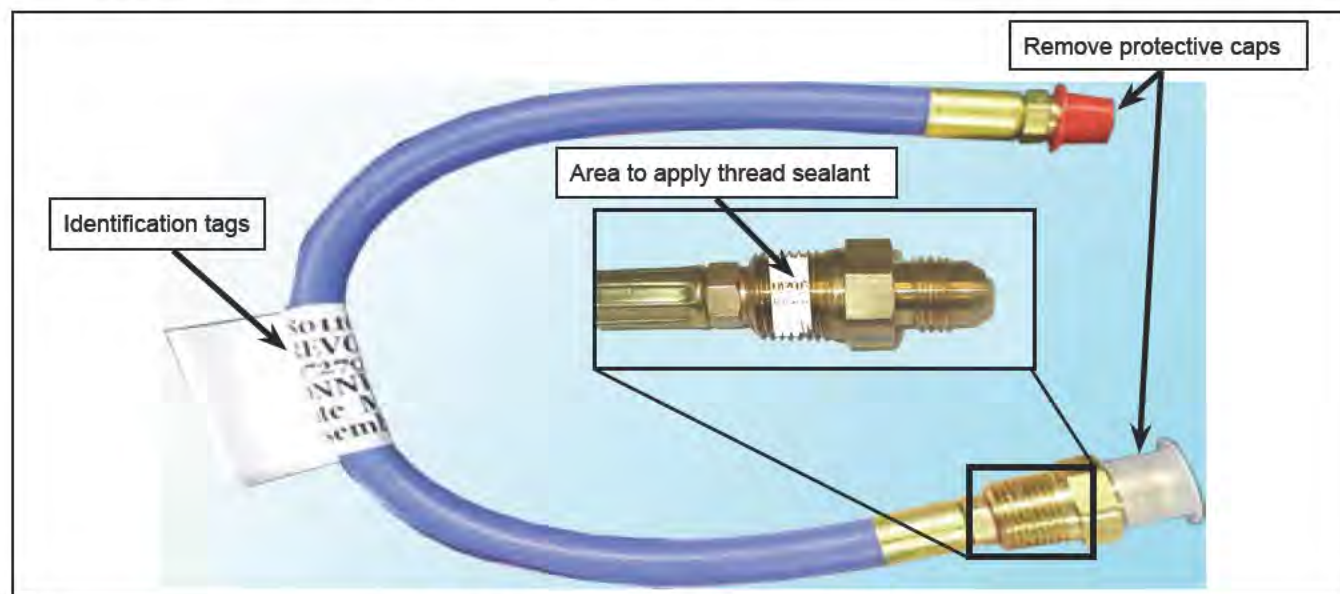

Figure 4 - Preparation of Tubes N80110-02
- 1.7. Remove the protective caps and identification tags then apply a thin coat of thread sealant on the threads of the 2 new N80110-02 supply tubes fitting. See Figure 4.